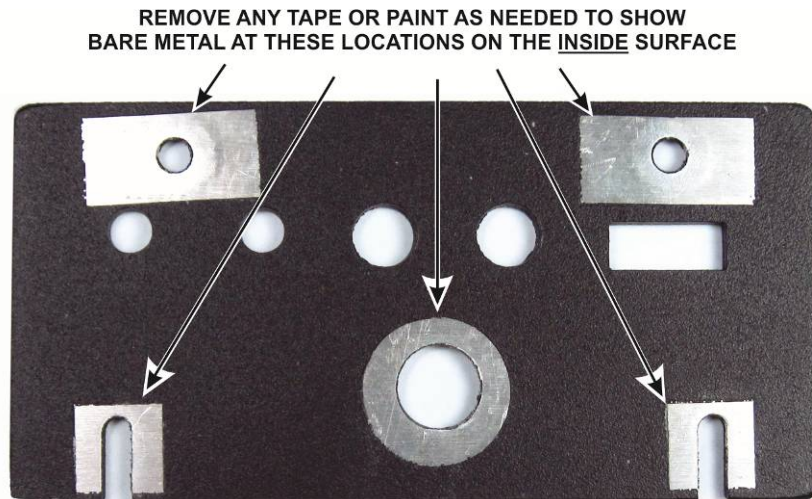

Figure 36. Preparing the Inside Surface of the Left Side Panel for Mounting.
- Unwrap the left side panel and clean the inside surface as needed in the five locations shown in Figure 36